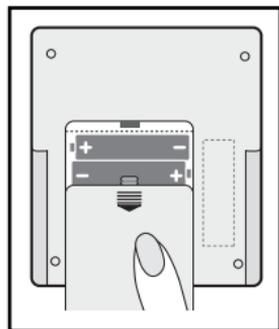

Fig. 2
1. Open the cover of the battery compartment and install 4 "AA" size batteries according to polarity marked inside the compartment. Do not use much force to remove the cover of the battery compartment (Fig. 2).